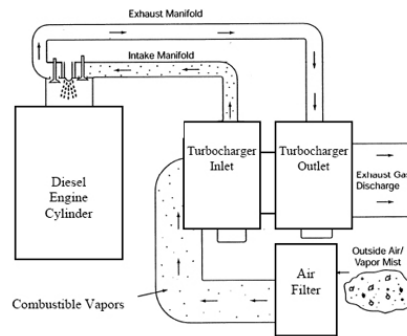

Fig. 2.12.4 Block Diagram of Air Intake system
- Four strokes of the diesel generator referring to fig 2.12.4 to 2.1.2.8 of the participant handbook
2. (Refer to Figure 2.12.4 and 2.12.5) explain the Air intake system to the participants.